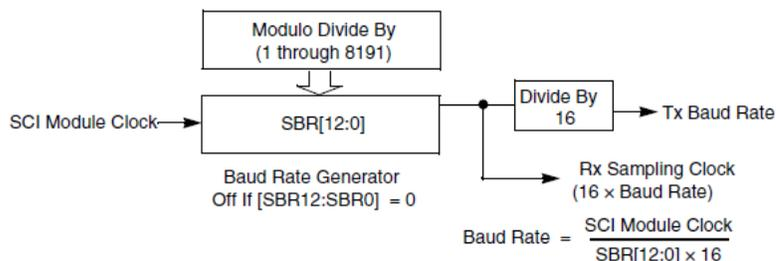

Figure 2. SCI baud rate generation
- Select the desired baud rate by writing a value in SCI baud rate register (SCIx_BD). Remember to use the equation in Figure 2.